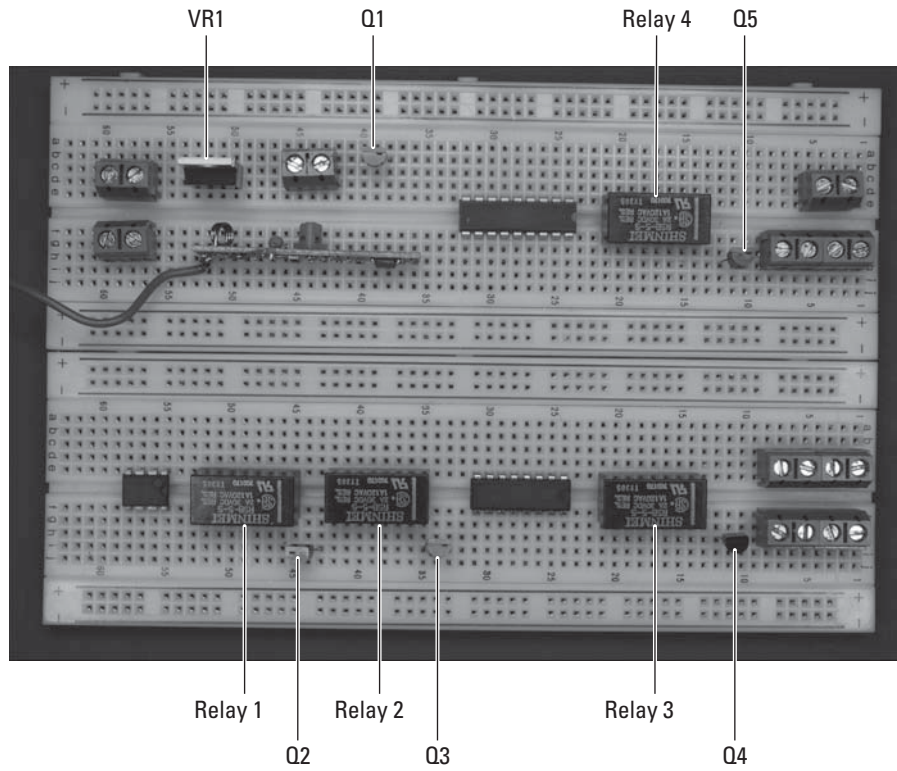

Figure 13-19: Place the RB5-5-S relays, LM7805 voltage regulator, and 2N3904 transistors on the breadboard.
3. Place the four RB5-5-S relays (Relay 1–Relay 4) and five 2N3904 (Q1–Q5) transistors on the breadboard, as shown in Figure 13-19.
- Collector lead to the left side, as shown in Figure 13-19